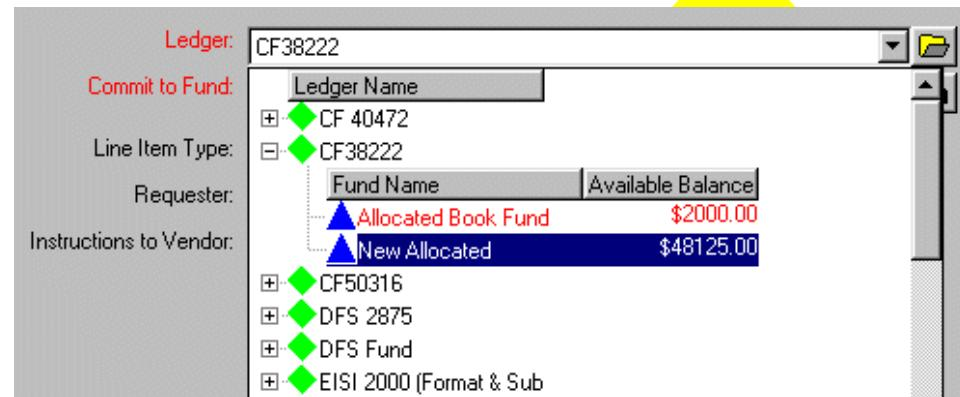

Figure 6-66. Ledger/Fund hierarchy displayed in the Ledger field
- If you want to select a fund from the ledger/fund hierarchy (Figure 6-66) rather than typing the fund code into the **Commit to Fund** field, click the **folder** button beside the **Ledger** field. This displays a hierarchy of available ledgers and funds. To aid you in selecting an appropriate fund, each fund's available balance displays within the hierarchy.